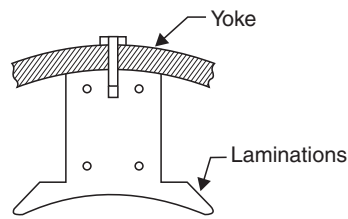
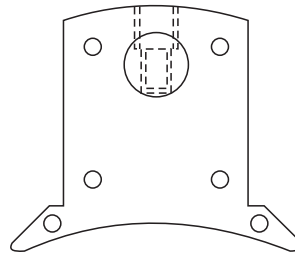

Fig. 4. Fixing pole to the yoke.
Fig. 5
- Different methods are used for attaching poles to the yoke. In case of *smaller sizes*, the back of the pole is drilled and tapped to receive pole bolts (*see Fig. 4*). In *larger sizes*, a circular or a rectangular pole bar is fitted to the pole. This pole bar is drilled and tapped and the pole bolts passing through laminations screw into the tapped bar (*see Fig. 5*).